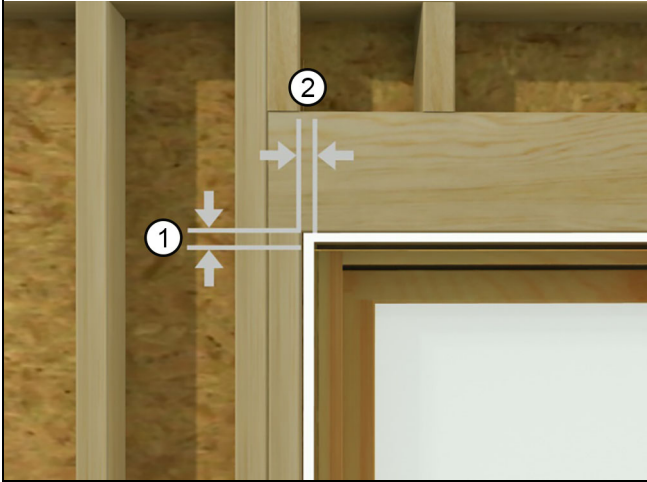

Figure 2
1. Rough openings (RO) should be $1/2"$ (13) higher and $1"$ (25) wider than the outside measurement of the frame (1/2" on each side of the frame). See Figure 2.